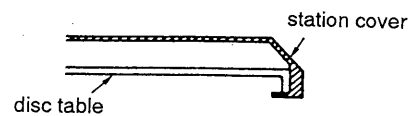

Fig. 7
4. Hang the rear part of the cover front on the disc table as figure 7.